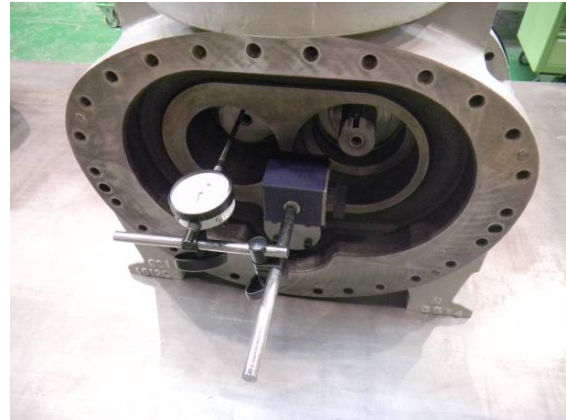

Fig. 074 End Clearance Measurement
- b) When the rotor has been pushed to the discharge side, prepare to attach the thrust bearing gland, then attach a dial gauge to the end of the axis and match the indicating needle to 0. Dial gauge measurement should be done from the side bearing, as shown in Fig. 074, in order to make the bearing gland tightening work easier and more precise.